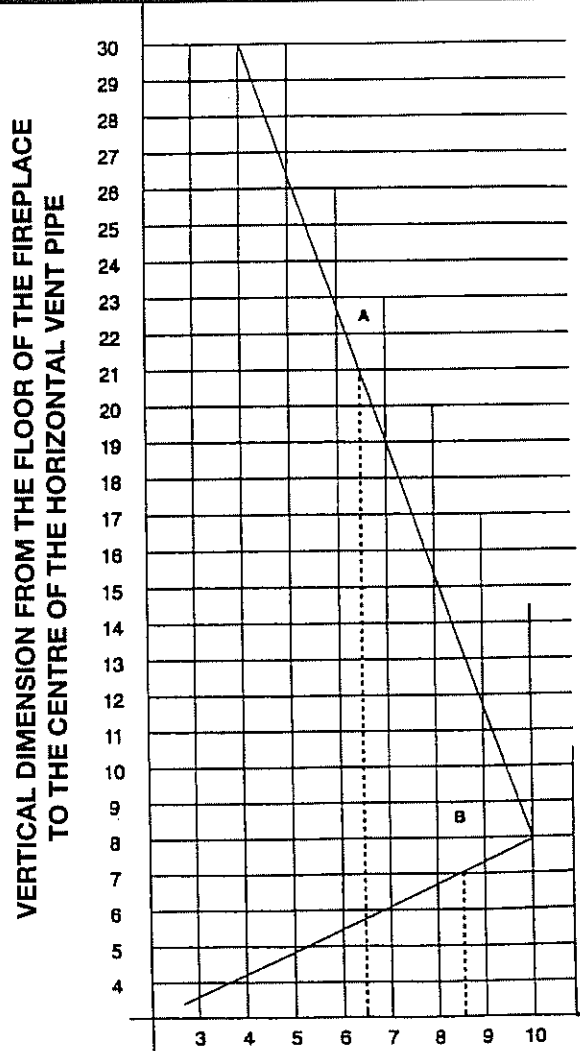

Fig. 23
The maximum horizontal vent run is 10 feet (305 cm) when the vertical vent rise is 8 feet 244 cm). Fig .23.
1. Determine the height of the centre of the horizontal vent pipe. Using this dimension on the Sidewall Vent Graph (Fig. 23), locate the point it intersects with the slanted graph line.
The final location of the DVR fireplace must be such that the horizontal vent dimensions fall within those stated on the venting graph. Fig. 23.
NOTE: The maximum horizontal run with 24" vertical rise is 36" (915mm) from the back of the fireplace to the face of the exterior wall. See vent graph (Fig. 23) for extended horizontal run if the vertical exceeds 24".